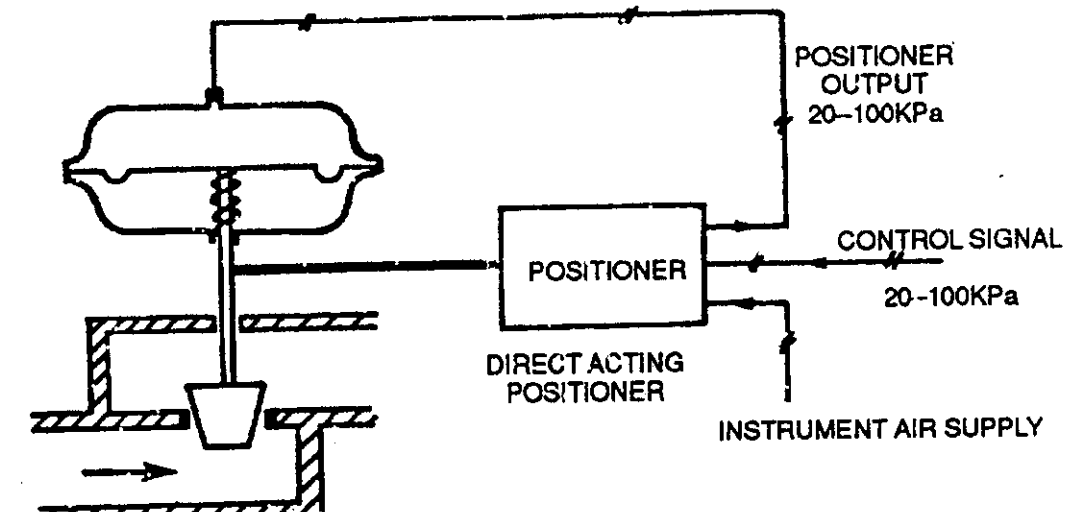

Figure 19: Air To Close Valve With Direct Acting Positioner.
- A globe valve which consists of a direct acting actuator and a direct acting valve body is shown in Figure 19.